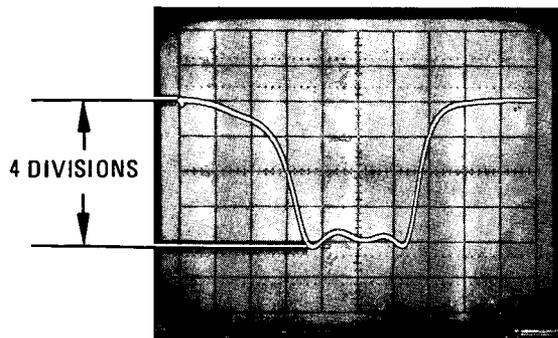

Figure 5-53. YTF Passband Display
4. Perform corresponding YTF tracking adjustment to center passband (10 dB points) on spectrum analyzer CRT display (Figure 5-53). Ensure that at least 25% of passband is on each side of center vertical graticule line.